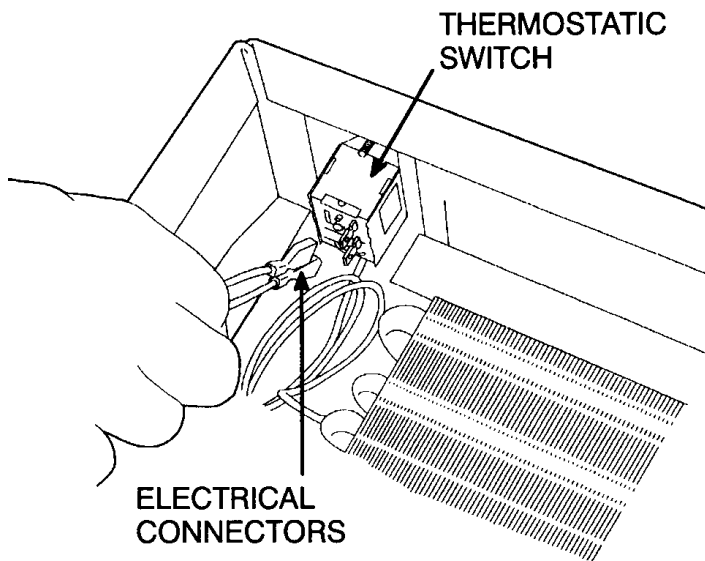

Figure 20 Thermostatic Temperature Control Switch
3. Remove the two electrical connectors from the thermostatic temperature control switch (Figure 20).
3. Connect the two electrical connectors to the switch (Figure 20).